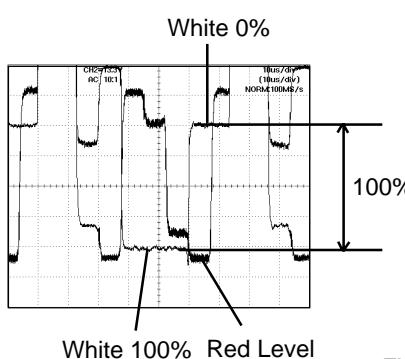

Fig. 2-3
- (Refer to Fig. 2-3)
6. Press the VOL. UP/DOWN button on the remote control until the red color level is adjusted to  $100 \pm 5\%$  of the white level. (**Refer to Fig. 2-3**)
12. Press the VOL. UP/DOWN button on the remote control until the red color level is adjusted to  $100 \pm 5\%$  of the white level. (**Refer to Fig. 2-3**)